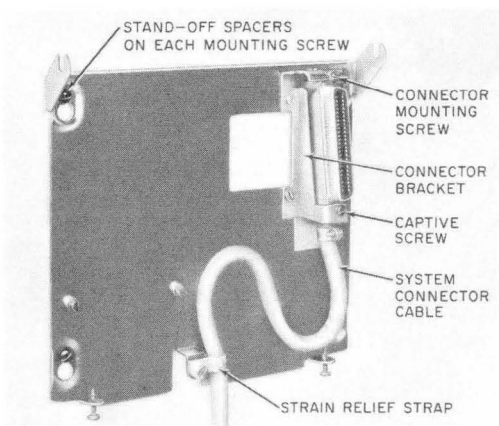

Fig. 14—Wall-Mounting Plate With Connector Cable Attached
(a) A system cable can be run along the wall surface to the location where the set is to be mounted and connected directly to the set (Fig. 14).
(7) Tighten the lower bracket screw so that the connector is securely mounted and does not wobble or shift around.
(8) Place the strain relief strap on the cable about 6 inches from the connector. Secure the cable to the lower edge of the mounting plate with the cable positioned as shown in Fig. 14.
- (j) Snap the plug retainer onto the wall housing (Fig. 14) so the cord plug will mate with the jack in the 85A connecting block to be mounted on the wall plate (see paragraph 3.26).